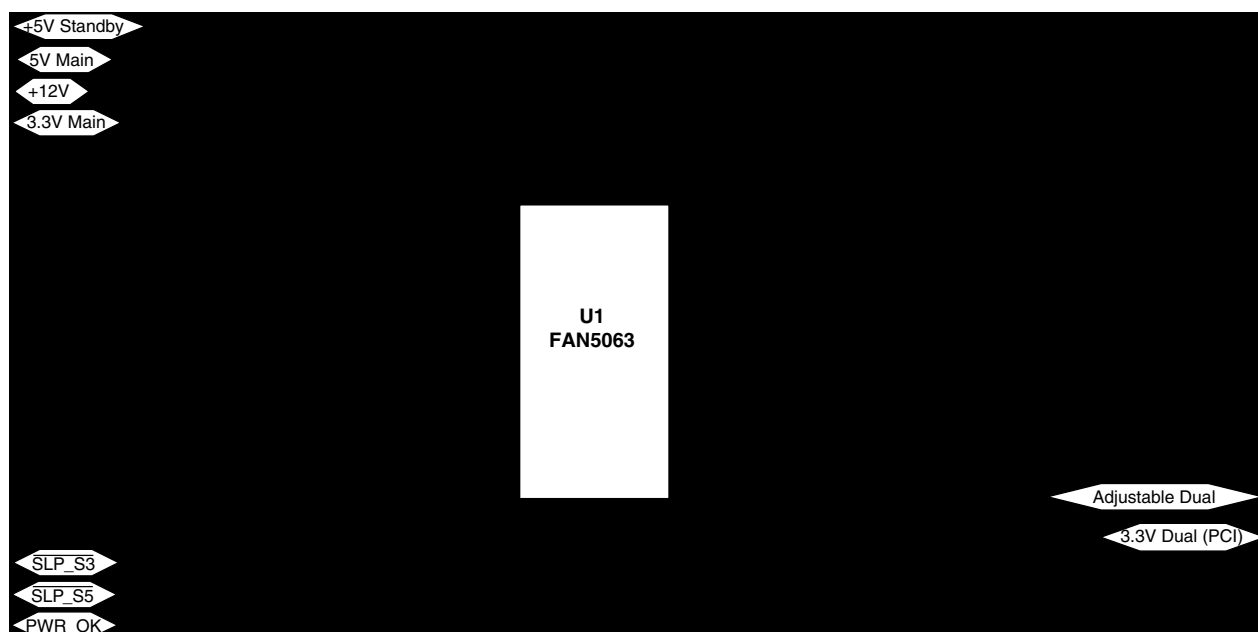
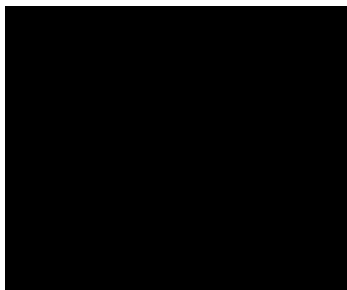

Figure 4. ACPI Selector
Figure 7. Adjustable Dual with MOSFET
($V_{+5VSTBY} = V_{+5VMAIN} = 5V$, $V_{+3.3V} = 3.3V$, $V_{+12V} = 12V$ and $T_A = +25^\circ C$ using circuit in Figure 4, unless otherwise noted.)
3.3V dual is generated by two MOSFETs, one from +3.3V main, the other from +5V standby, as shown in Figure 4. When main power is present, the MOSFET Q1 is turned on as a switch, so that input and output are connected together. When main power is absent, the MOSFET Q2 is controlled by the FAN5063 as a linear regulator, generating a regulated 3.3V from +5V standby. The MOSFET Q1 must be connected as shown in the figures, to avoid back-feed.
Adjustable dual is generated by one external NPN bipolar acting as a linear regulator from +5V main, and one linear regulator internal to the FAN5063 from +5V standby, as shown in Figure 4, and in the block diagram on the front page. When main power is present, the NPN Q3 linear regulator is on. Q3 cannot be substituted with a MOSFET. If used in one direction, the MOSFET's body diode would permit back-feed; if used in the other direction, it would short-circuit the linear regulator action.
The output voltage of the Adjustable Dual is set with two resistors as shown in Figure 4, according to the equation.
In main power operation, the FAN5063 is run from the +12V main supply. This supply also provides voltage to the various MOSFET gates. However, during standby, this supply is off. To provide power to the chip and the appropriate gates, the FAN5063 incorporates a free-running charge pump. As shown in Figure 4, and in the block diagram on the front page, a capacitor attached between pins 1 and 2 of the FAN5063 acts as a charge pump with internal diodes. The charge pump output is internally diode or'ed with the 12V input. The 12V input must have a series diode to prevent back-feeding the charge pump to the +12V main when in standby. The 12V input line needs a bypass capacitor for high-frequency noise rejection.
Instead of the bipolar transistor shown in Figure 4 for Q3, the linear pass element for the adjustable dual, a MOSFET and schottky diode can be used as shown in Figure 7.